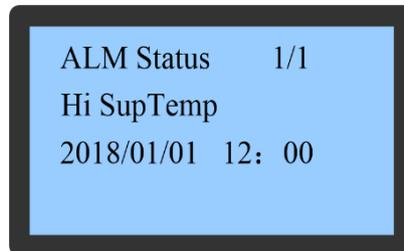

Figure 5-5 Current Alarm Menu
The alarm status menu is used to monitor the current alarm status of the air conditioner unit. Alarm or specific alarm information will not be displayed. The specific alarm information includes XX/YY, alarm type, and alarm generation time, as shown in **Figure 5-5**. XX indicates the alarm serial number (SN), and YY indicates the total number of reported alarms.